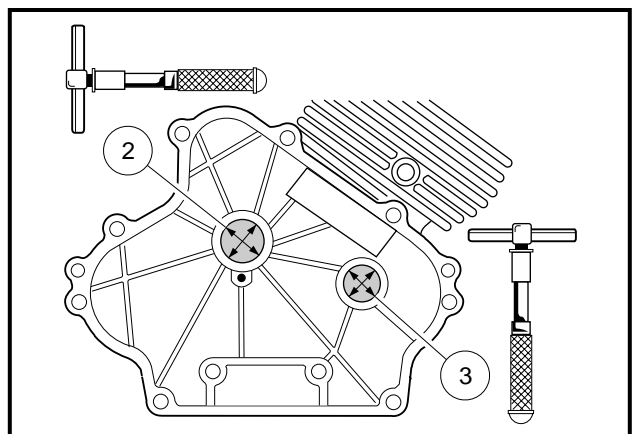
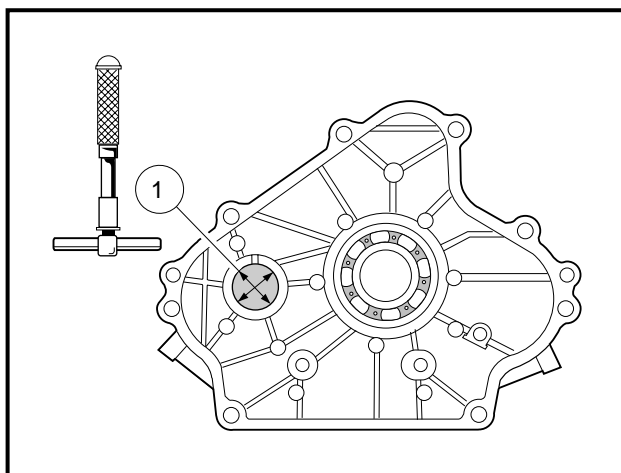

Figure 13-91 Inspect Bearing Surfaces in Crankcase
Figure 13-92 Inspect Camshaft Bearing Surface in Crankcase Cover
1. Inspect the camshaft surfaces, one in the crankcase (3) (**Figure 13-91, Page 13-41**) and the other in the crankcase cover (1) (**Figure 13-92, Page 13-42**). Using an inside micrometer or telescoping gauge, measure the inside diameter of each bearing surface. If the inside diameter is greater than 0.9080 inch (23.063 mm), replace the crankcase and/or the crankcase cover.
2. Inspect the crankshaft bearing surface (2) in the crankcase. Using an inside micrometer or telescoping gauge, measure the inside diameter of the bearing surface. If the inside diameter is greater than 1.1841 inch (30.075 mm), replace the crankcase (**Figure 13-91, Page 13-41**).